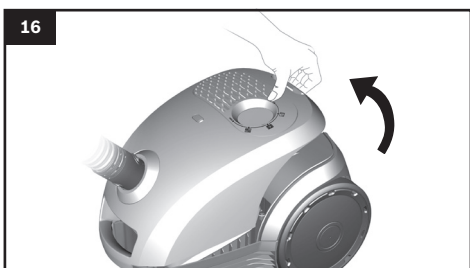

Figure 16
- Open the dust bag compartment lid. **Figure 16**